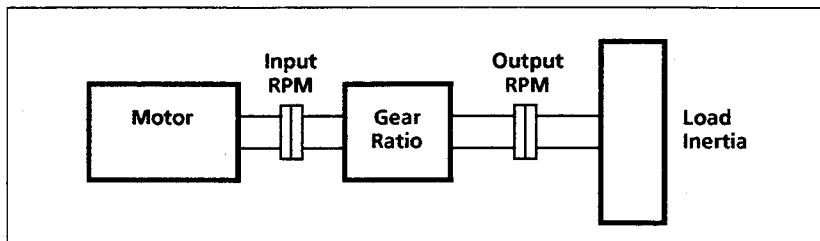

Figure 8 – System Block Diagram
- b) Calculate the inertia of the system in relation to the motor shaft. See Figure 8.